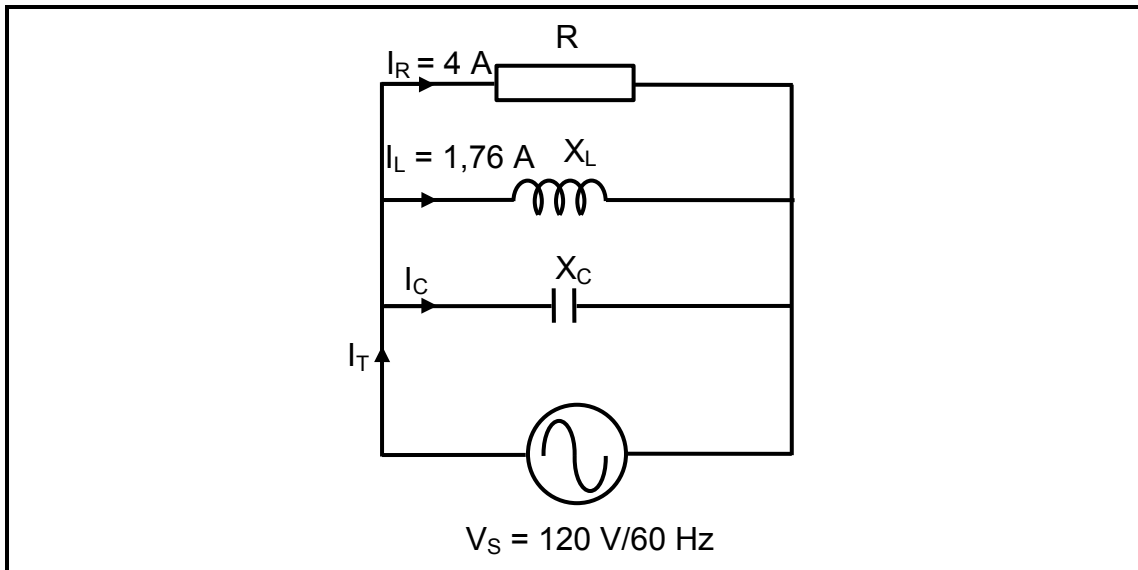

FIGURE 5.1: RLC PARALLEL CIRCUIT
- 5.3 Study the circuit diagram in FIGURE 5.1 below and answer the questions that follow.